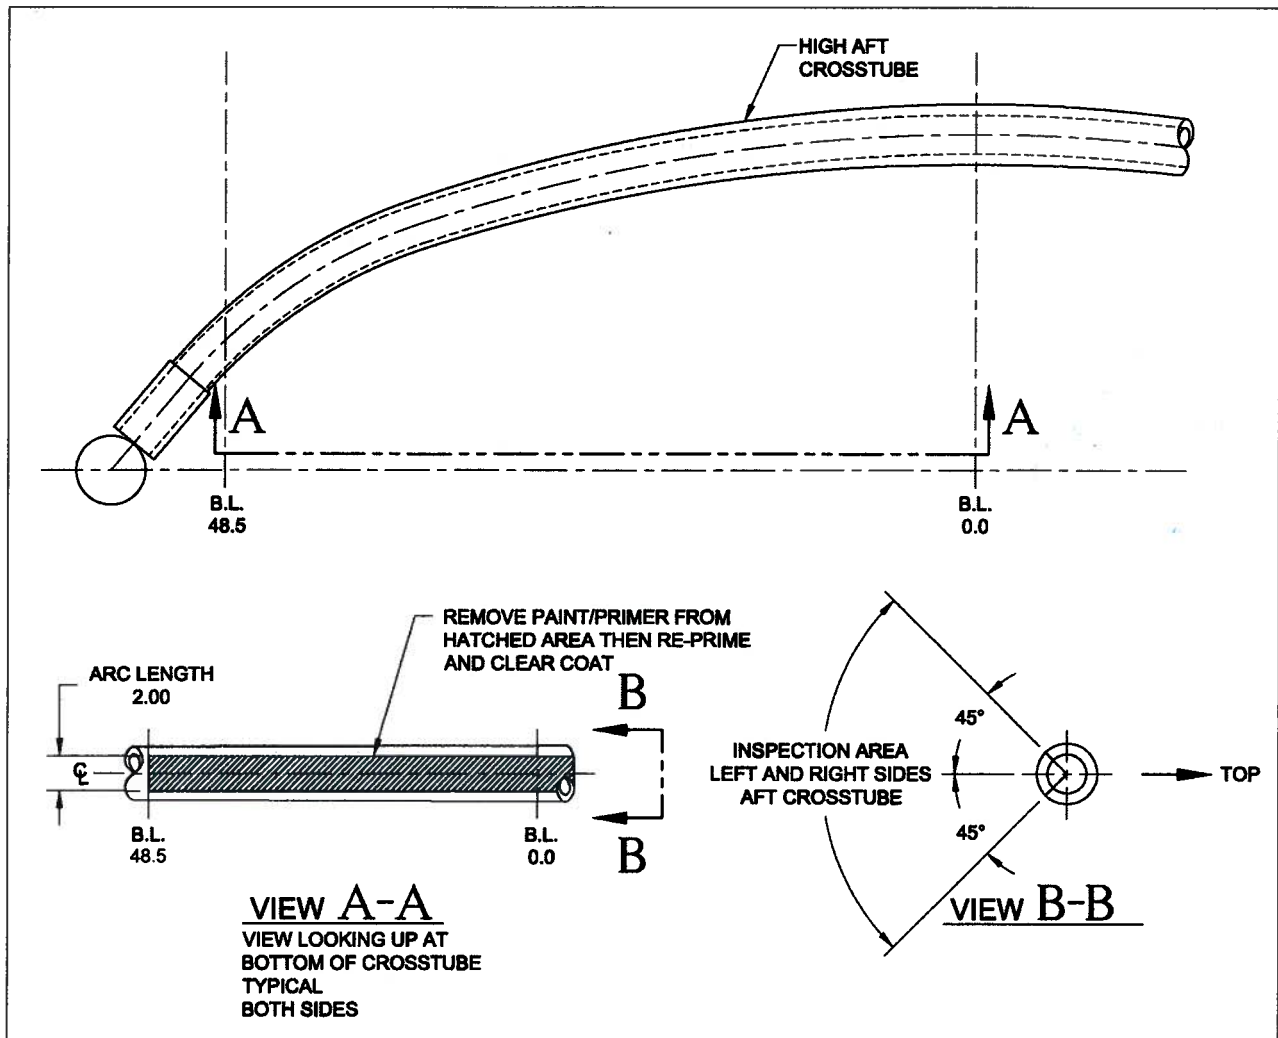

FIGURE 1 – CLEAR COAT AND INSPECTION AREA POST REVISION A
P/N 412-321-104 Crosstubes with serial number AA-1274 and subsequent are manufactured with the inspection area primed and clear-coated. Steps 1 through 3 of Part B may be skipped unless opaque paint has been applied to either inspection area described below and in Figure 1.
1. Prepare crosstube inspection area by chemically removing crosstube paint and primer from an area 2.0 ± 0.25 inches wide extending between RBL 48.5 and LBL 48.5 at the center-bottom surface of the crosstube (see Figure 1).
1. Use MIL-PRF-87937 cleaning compound prepared in accordance with the manufacturer's recommendations to clean all residue and dirt from the cross tube surfaces shown in Figure 1.
2. Refinish crosstube by applying MIL-PRF-85582 primer and MIL-PRF-85285 paint (or equivalent) per manufacturer instructions to the stripped area. The area to be inspected per **Part B** should be masked to omit MIL-PRF-85285 paint as shown in Figure 1. Paint inspection area with MIL-PRF-85285 Type I Gloss Clear coat as described in **Part B** of this bulletin.